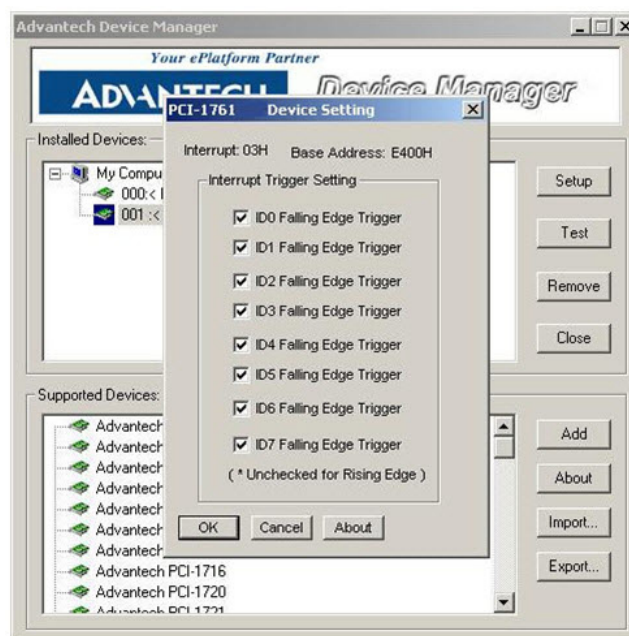

Figure 2.7 Device Setting Dialog Box
3. Please click the Setup button to configure your device. On the Device Setting dialog box (Fig. 2-7), you can configure the ID0 ~ ID7 Interrupt trigger mode either as Rising Edge or Falling Edge.